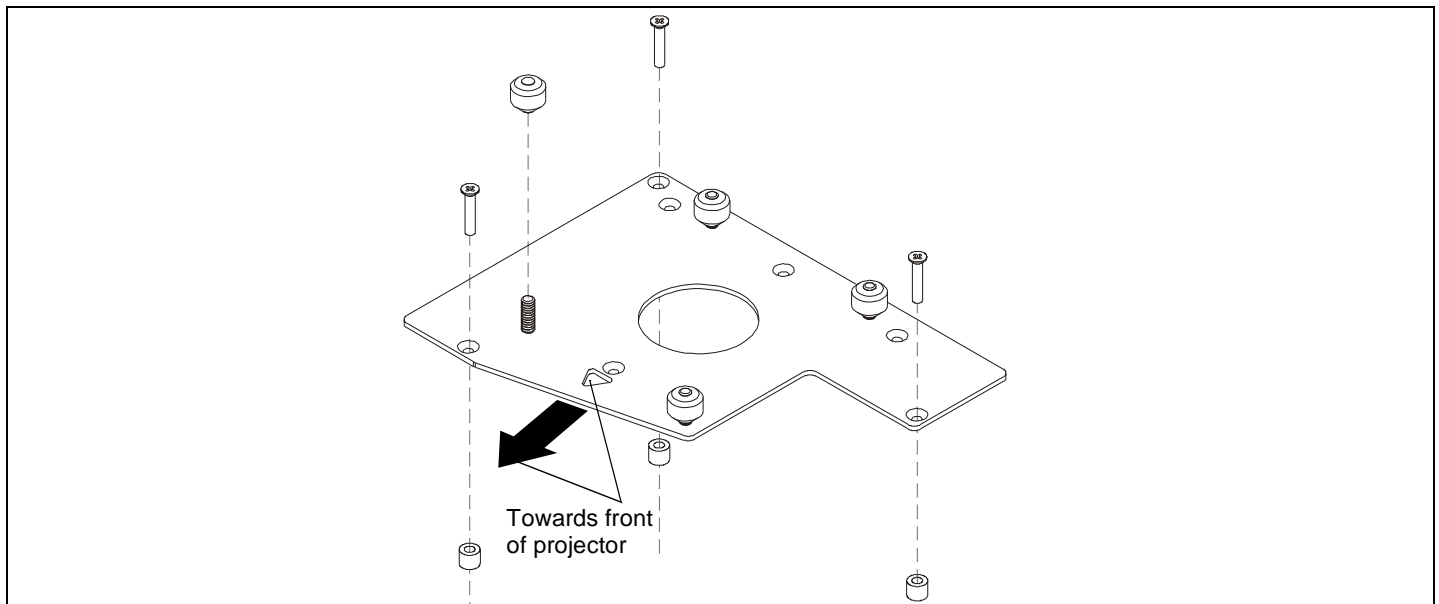

Figure 1
4. Use three M3 x 16mm flat head screws and three spacers (all from MSP-DCCC4504 Interface Hardware Kit) to secure the interface bracket to the projector. (See Figure 1)